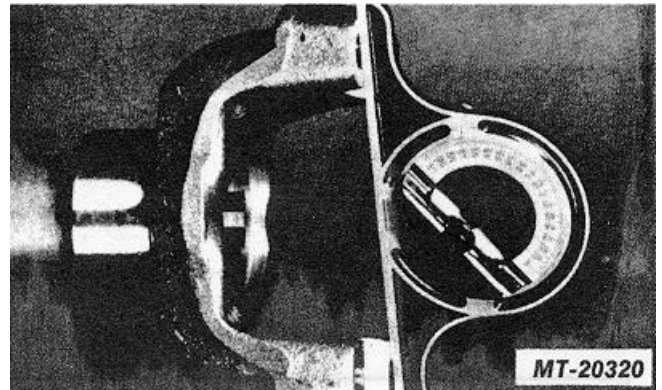

Fig. 43
2. To determine driveshaft angles, a spirit level protractor is required (Fig. 43). When angles are read from the 0 deg. mark (for example, measuring inter-axle shaft angle 5 deg.), record and use the angle shown on the protractor. When angles are read from either of the 90 deg. marks (vertically) for example, measuring yoke angles, do not record the angle shown on the protractor since the 90 deg. marks must be understood to be the same as 0 deg. on the horizontal plane. Thus, if a vertical reading is 85 deg., the angle being measured is 5 deg.